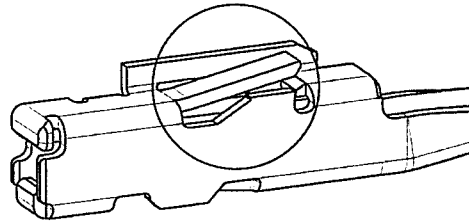

Fig.12 (b)
- e. Check proper position of contact lance, see Fig.12 (b) after each contact removal. If contact lance is not in proper position after removal, discard contact and replace with a new contact.